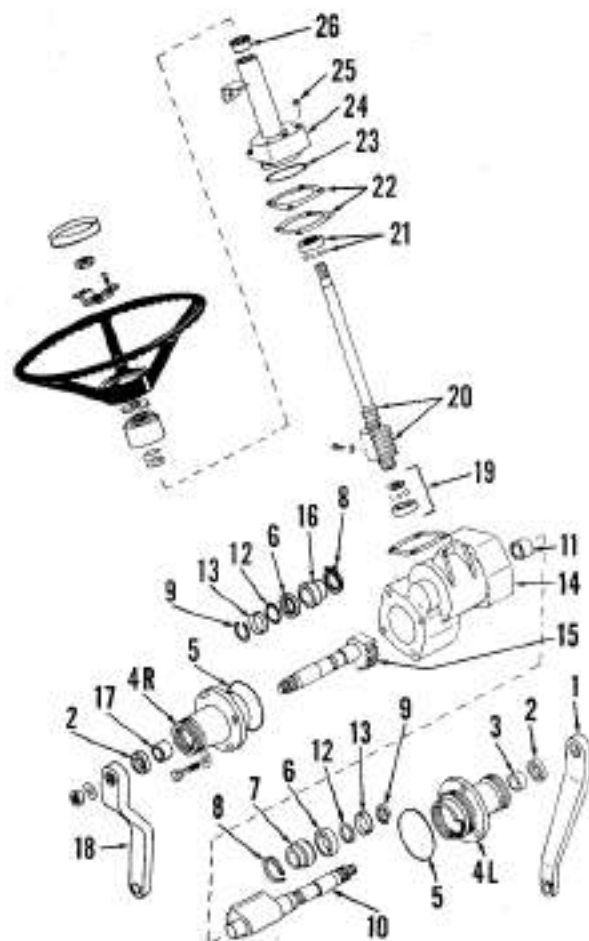

Fig. 6—Exploded view of typical manual steering gear used on MF230 and some MF235 models.
filled to the level of the opening for plug (25—Fig. 6) with SAE 90 gear lubricant.
**5. OVERHAUL.** To overhaul the removed unit, first remove the right pinion housing (4R—Fig. 6) and shaft (15), then remove the left pinion housing (4L) and shaft (10). Unbolt shaft housing (24) and withdraw housing and shaft (20). Eleven loose balls should fall from upper bearing (21) and eleven from lower bearing (19). Pitman shafts (10 and 15) and related parts can be withdrawn from housing (4L or 4R) after snap ring (8) is removed as shown in Fig. 7. Parts of the ball nut and shaft (20—Fig. 6) are not available separately and should not be disassembled.
After steering shaft ball nut is installed, turn the steering shaft until the ball nut is at bottom. Position the steering gear as normally installed on the tractor, and install the left pitman shaft (10) and housing (4L) assembly. The flat identification boss on left housing (4L) should be down when installed. The marked (3rd) tooth on left pinion (10) should be aligned with center valley of ball nut rack (20) as shown in Fig. 8. Turn the steering shaft until ball nut is moved to top and install the right pitman shaft (15—Fig. 6) and housing (4R) assembly. The first tooth on right pinion (15) should be aligned with the first valley on left pinion (10) as shown in Fig. 9. The flat identification boss on right housing (4R—Fig. 6) should be toward front when installed correctly.